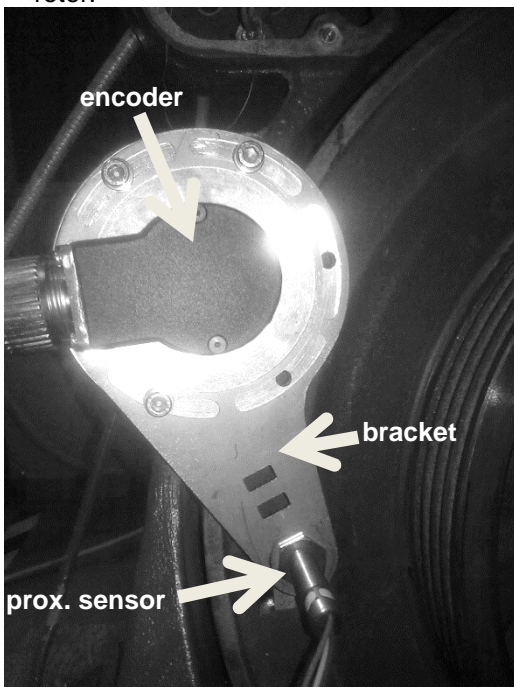

Figure 6: Picture of encoder, proximity sensor, and sensor bracket (PN 43T02814-0030)
3. The sensor bracket and encoder should be loosely mounted on the motor with socket head cap screws with washers as shown in **Figure 6**. NOTE: there should be a pre-made encoder mount on the motor frame to mount the rider wheel and encoder. Make sure that the rubber on the rider wheel is making good physical contact on the rotor so that the wheel rotates with the rotor.